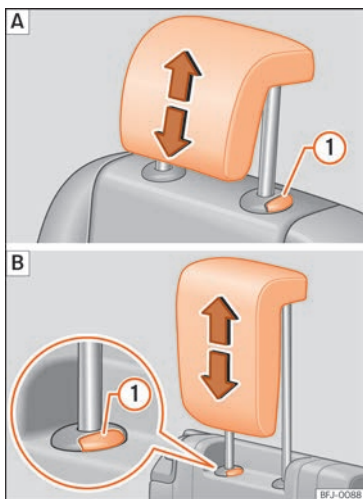

Fig. 95 Rear headrest: adjusting the headrest.
only necessary to press the button » Fig. 95 ① to lower them » ⚠ in Introduction on page 112.